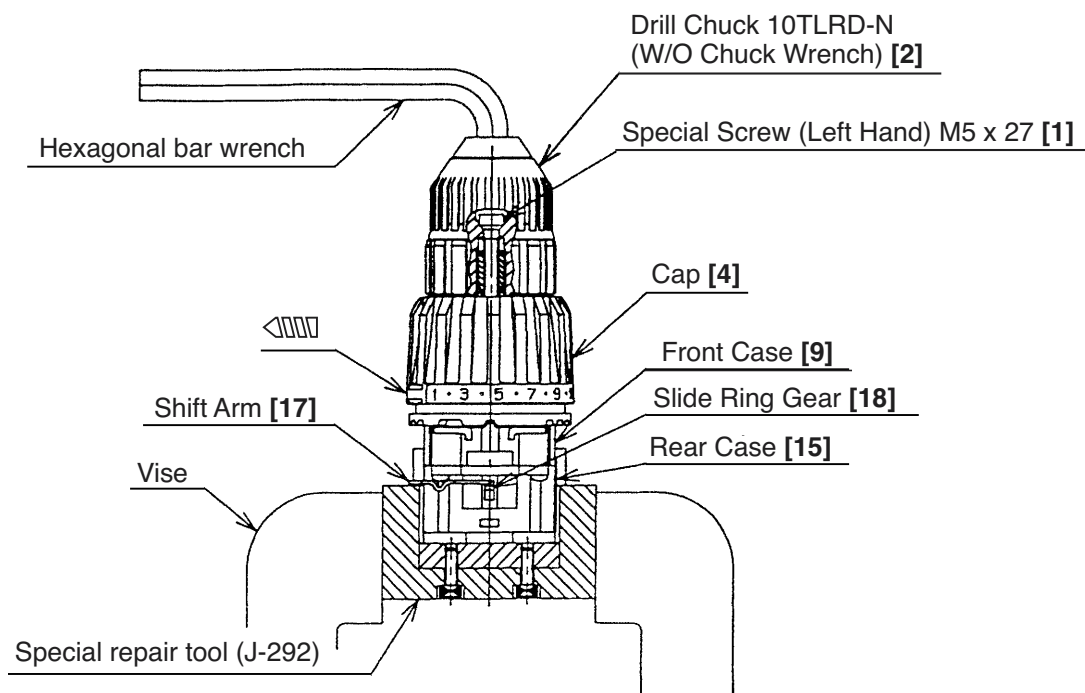

Fig. 4
(2) After housing (B) has been removed, all the internal parts, assembled or separate, can be taken out as they are. Lift the entire contents from housing (A) while holding the Motor **[26]** and the Cap **[4]**.
(3) Removal of the Drill Chuck 10TLRD-N (W/O Chuck Wrench) **[2]** (See Fig. 4.)
(b) Attach the motor spacer (an accessory of the special repair tool J-292, Code No. 316379) to the assembly of the Drill Chuck 10TLRD-N (W/O Chuck Wrench) **[2]**, Cap **[4]**, Front Case **[9]** and Rear Case **[15]** then mount it in special repair tool J-292 clamped in the vise as illustrated in Fig. 4. In this operation, check that the pinion press-fitted in the special repair tool J-292 and Planet Gear (A) Set **[22]** are engaged properly.
(e) Fit the hexagonal bar wrench M10 into the Drill Chuck 10TLRD-N (W/O Chuck Wrench) **[2]** as illustrated in Fig. 4 and remove the Drill Chuck 10TLRD-N (W/O Chuck Wrench) **[2]** by turning the hexagonal bar wrench counterclockwise.